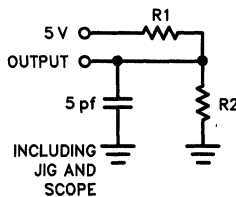

Figure 1b
5. Output Loading as in Figure 1b.